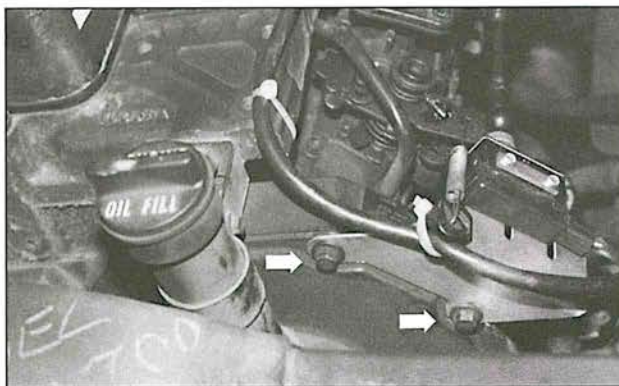

Fig. 17
- b. Remove the two bolts from the gear cover as shown in Fig. 17.
- d. Mount the fuel pump switch mounting bracket to the gear cover at the location where the bolts were removed (Fig. 17). Use the original bolts to attach the bracket to the gear cover. Tighten the bolts to 18 ft-lb.
- Remove the two gear cover bolts from the upper right corner as shown in Figure 17. One of these bolts holds the original fuel pump return spring bracket in place. Save this bracket, since you will reuse it.
- Attach the fuel pump switch mounting bracket to the gear cover using the original bolts that were removed from the gear cover (see Fig. 17). Tighten the bolts to 18 ft.-lb.